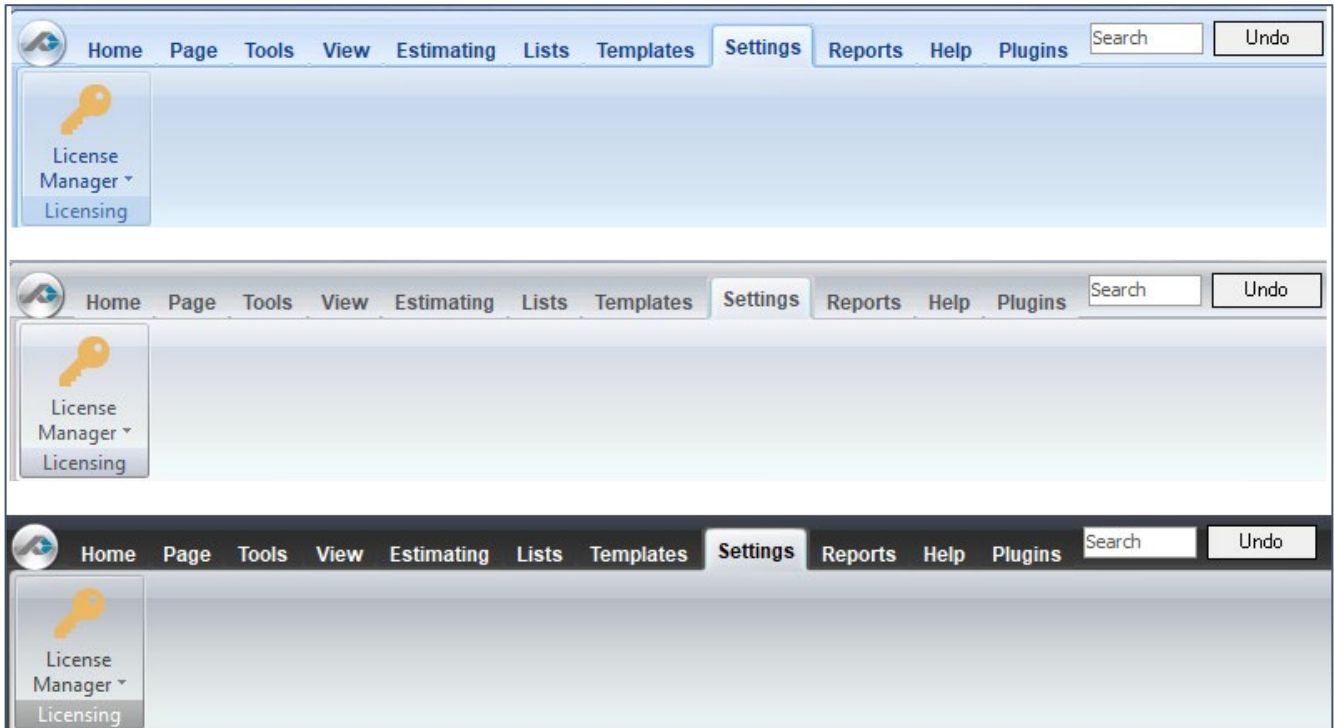

Figure 51-B
2. The **Show Under The Hood Screen** displays the UTH (Under-The-Hood) tab after a password is entered (Fig. 51-C). Going "Under-The-Hood" allows the programmer to link to PlanSwift software to develop applications that work with PlanSwift. Under-The-Hood provides a programmer the capability to link to PlanSwift software to develop applications that work with PlanSwift. This tab is used for accessing the Application Programming Interface (API) and is for developers only. PlanSwift's technical support team does not support going under-the-hood. You are on your own! Additional API information is available here. We recommend that data be backed up before venturing into the API.